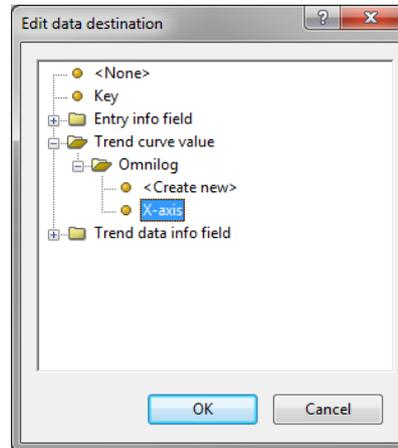

Figure 5: The *Edit data destination* dialog box.
6. Select the *Hour* row in the list and click **<Edit destination>**. Select "X-axis" as the BioNumerics destination field under *Trend curve value > Omnilog* in the *Edit data destination* dialog box and press **<OK>** (see Figure 5).